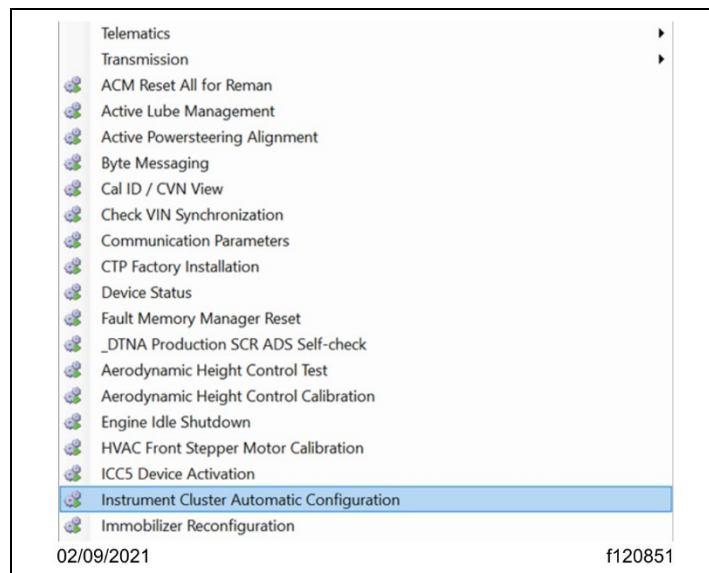

Fig. 23, 'Actions Menu,' 'Instrument Cluster Automatic Configuration' Selected
7.20. Select the 'Actions' menu and scroll down and select 'Instrument Cluster Automatic Configuration.' See Fig. 23.